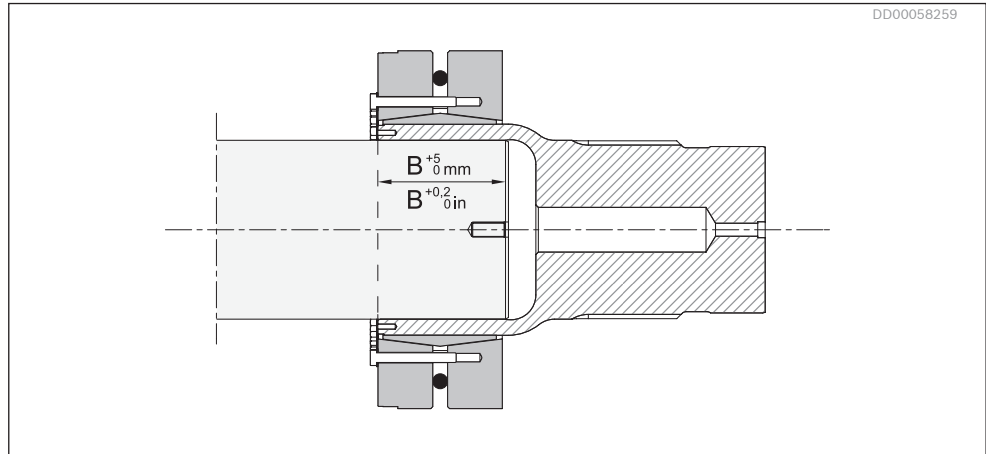
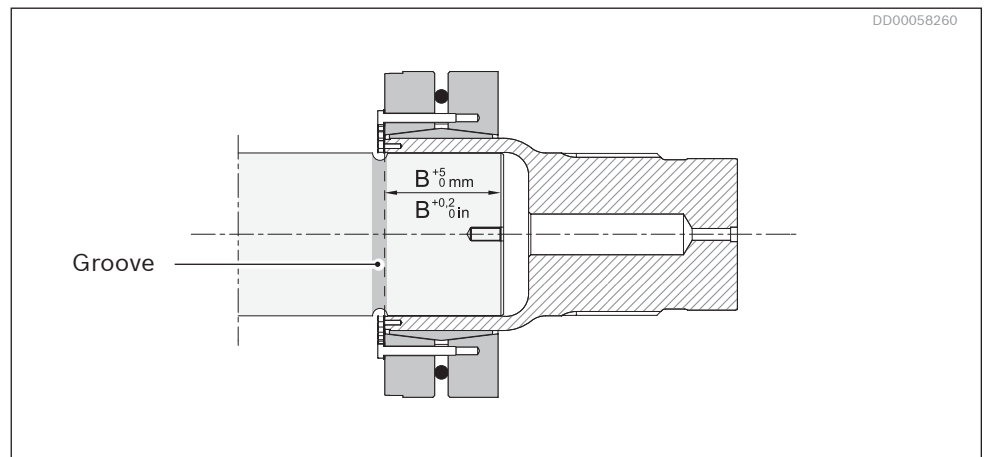

Fig. 36: Driven shaft without stress relieving groove
Fig. 37: Driven shaft with stress relieving groove
4. Pull the coupling adapter on the shaft by turning the nut on the assembly tool to specified clamping length (length B, see *Fig. 36* and *Fig. 37* and *Table 14*).
The motor can be mounted to the driven shaft with or without a mounting tool, but the use of a mounting tool is recommended since it makes the work easier. Ensure that the full clamping length is used, by for example measuring and marking the driven shaft. This is of particular importance if the driven shaft has a stress relieving groove. See *Fig. 36*, *Fig. 37* and *Table 14*.
5. Pull the motor onto the shaft by turning the nut on the mounting tool until the length stated in the *Table 14*, is obtained; see *Fig. 36* and *Fig. 37*.
8. Remount the plug G1" (2).
9. Remount the end cover (1) and tighten the screws together with washers.